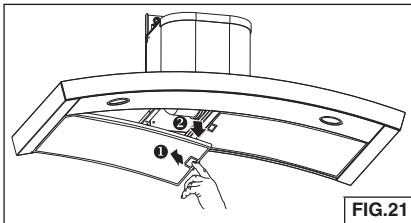

FIG.21
1. To remove the GREASE filter, pull down latch tab to disengage the filter from the hood. Tilt the filter downward and remove. Fig. 21.
2. To install the GREASE filter, align rear filter tabs with slots in the hood. Pull down latch tab, push filter into position and release. Make sure the filter is securely engaged after installation. Fig. 21.